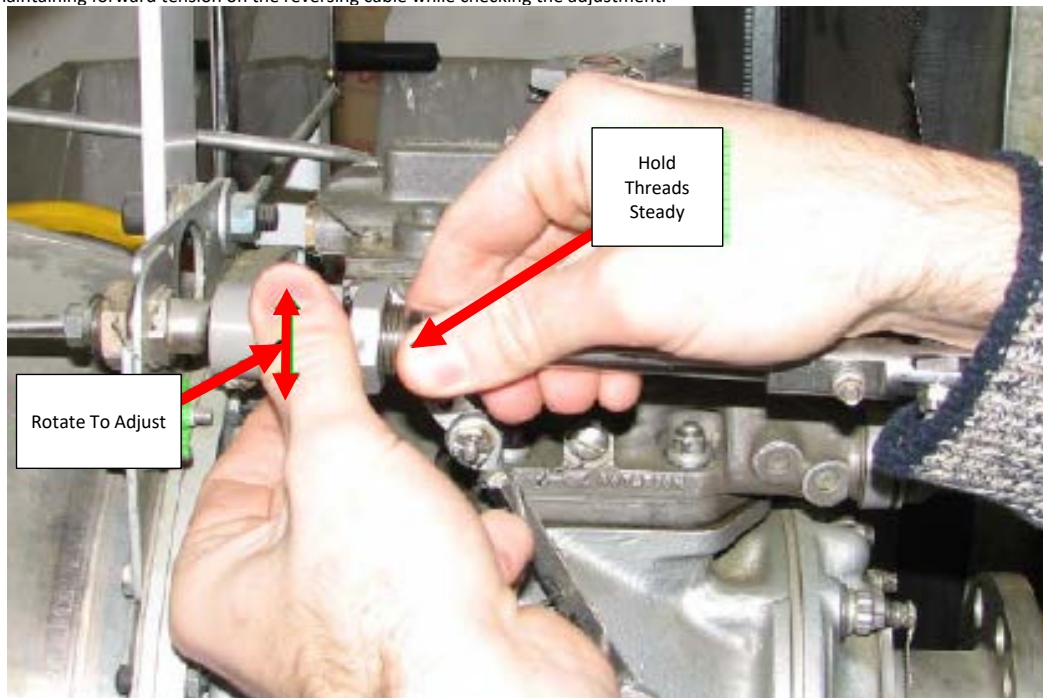

Figure 76-31 - Adjusting the Low Pitch Stop Adjuster to Rig the Beta Valve Flush
- I. Adjust the low pitch stop adjuster as necessary to make the clevis surface flush with the beta valve cap nut. To adjust the low pitch stop adjuster, remove any safety wire present, loosen the jam nut, pull forward on the reversing cable front clevis to eliminate cable backlash, and rotate the aft end of the adjuster while holding the threads steady (see Figure 76-31). The low pitch stop adjuster can be adjusted very accurately, so it should not be difficult to rig the clevis flush. For reference, the tolerance on this rigging step should be approximately  $+.000/-0.020$ , where a positive tolerance would be when the clevis surface protrudes forward of the cap nut. However a dimensional inspection of the beta valve rigging is not necessary since the running engine will indicate whether or not further refinement is necessary. It must be emphasized that this step in the rigging process will be of no value unless the backlash in the cable is eliminated by maintaining forward tension on the reversing cable while checking the adjustment.